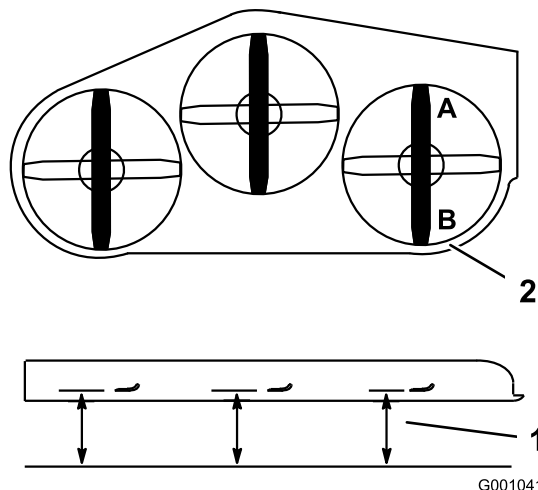

Figure 71
2. Position one blade front-to-rear. Measure at **A** and **B** locations from a level surface to the cutting edge of the blade tips (Figure 71).
5. Measure at the C and D locations (Figure 71) from a level surface to the cutting edge of the blades.